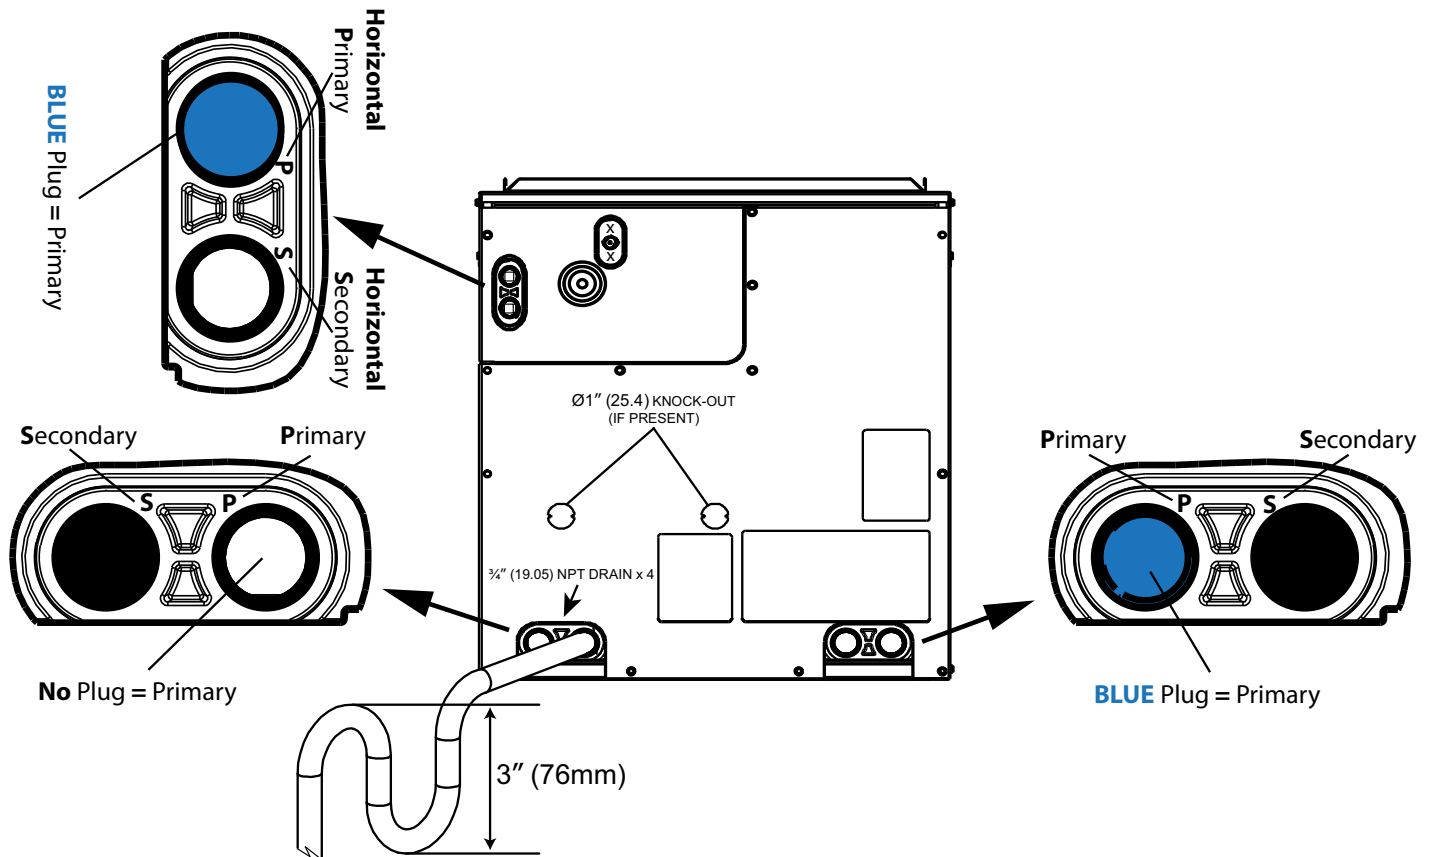

Fig. 14 – Condensate Trap and Drains
In horizontal installation with a 4-way multipoise furnace, break off perforated duct flanges on furnace. See furnace Installation Instructions. For condensate connections, use the correct drain lines per Fig. 14.
IMPORTANT: Depending on the date of manufacture, the unit's primary and secondary drains may be reversed from what you are accustomed to. Please check carefully before connecting the drain. Refer to Fig. 14.
- Make trap at least 3 inches (76 mm) deep and no higher than the bottom of unit condensate drain opening (Fig. 14).